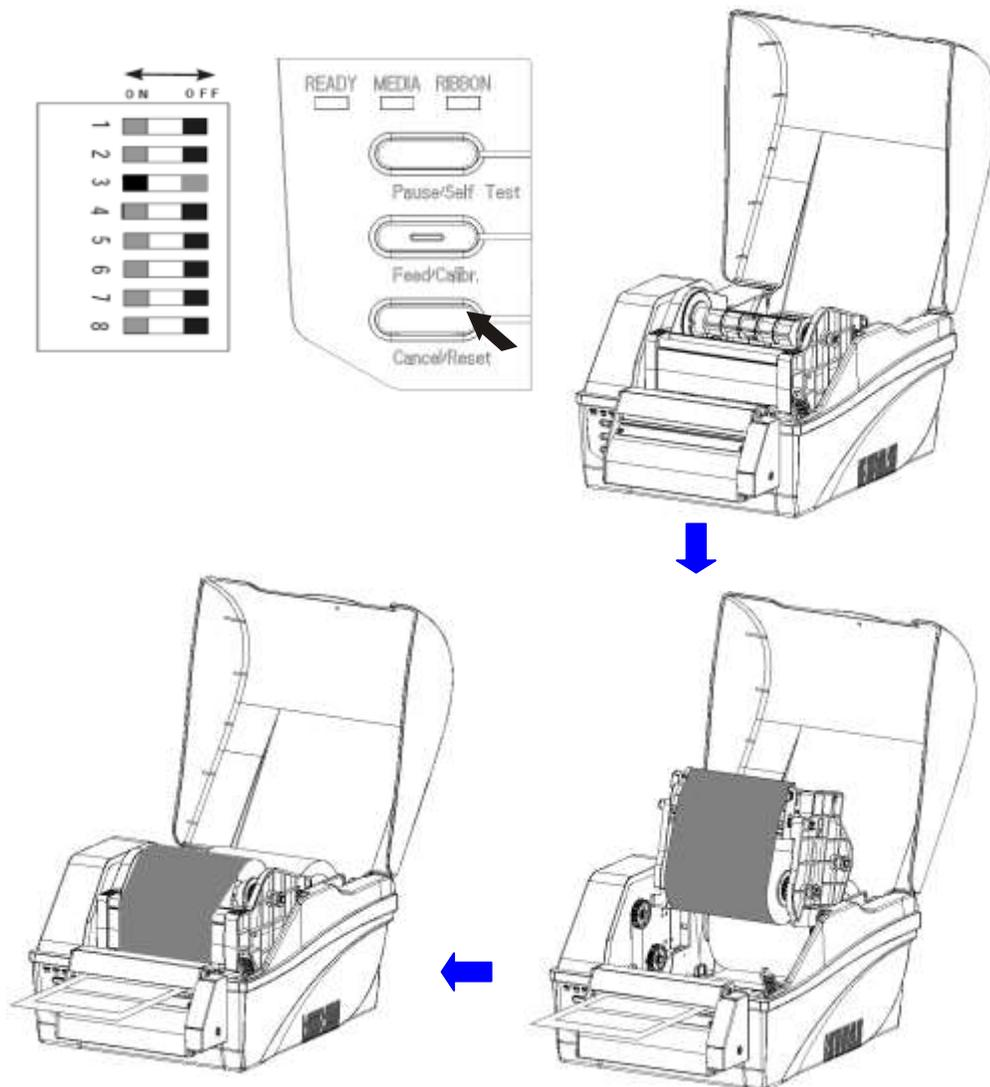

Figure 6-8
4. Load media as shown in Figure 6-8. The Rotary Cutter is now ready to use.